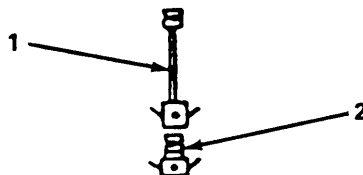

Figure 4-9. Adapter Assembly, Removal/Installation.
b. Replace. (figure 4-9)
(1) Removal.
- (a) Pull upon suction hose assembly (1) camlock levers and remove suction hose.
- (b) Pull upon adapter camlock levers and remove adapter assembly (2) from fuel source.
(2) Installation.
- (a) Position adapter assembly (2) on fuel source and secure by pushing down on camlock levers.
- (b) Install suction hose assembly (1) and secure by pushing down on camlock levers.